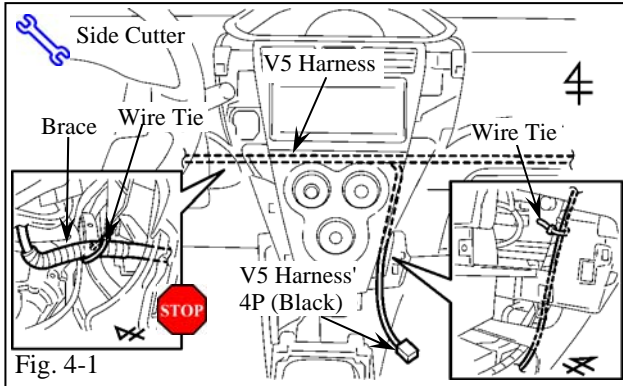

Fig. 4-1
- (a) Route the V5 harness toward the floor console area and glove box area, then secure it to the under side of the bottom hole of the driver side vehicle's brace with one wire tie. (Fig. 4-1)
- (1) Route the V5 harness away from any moving parts such as levers, etc.
- (b) Secure the V5 harness to the passenger side vehicle harness in the center console area with one wire tie. (Fig. 4-1)